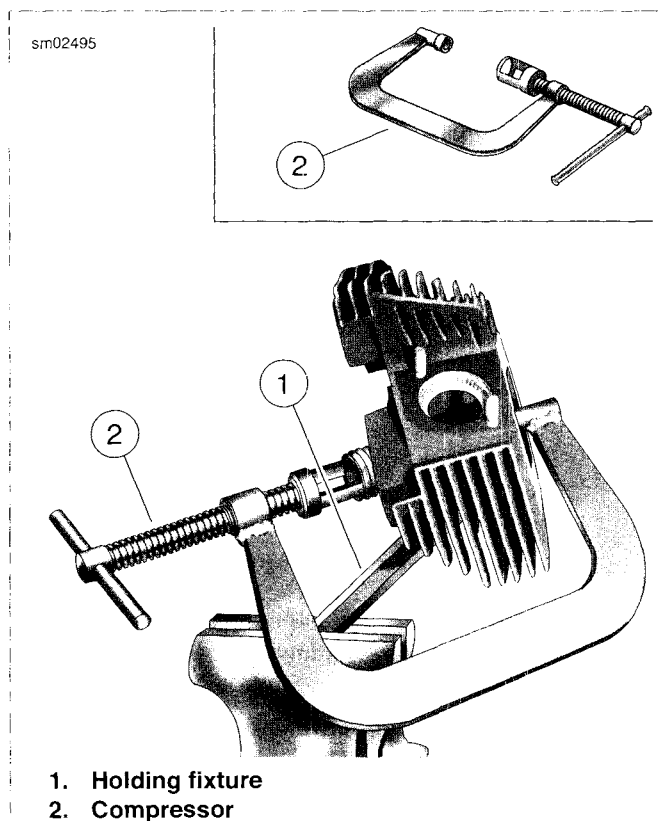
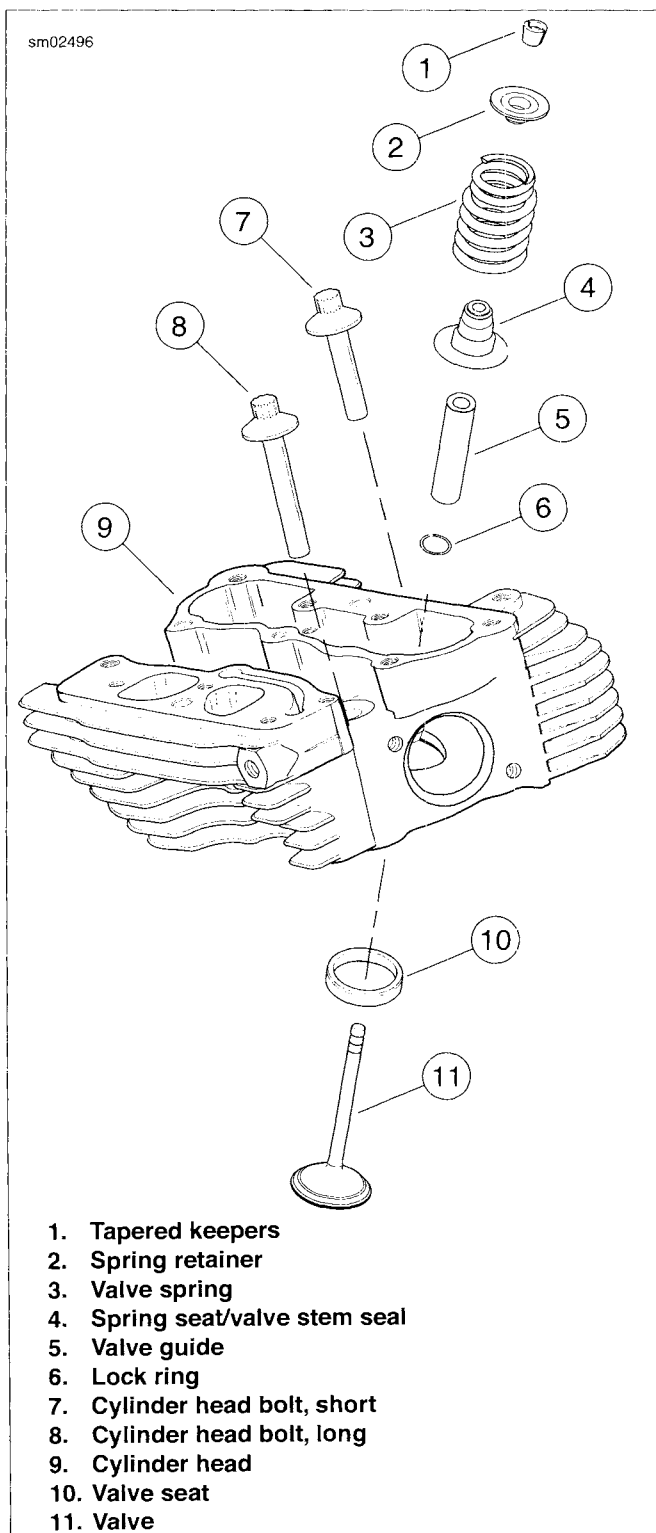

Figure 3-98. Valve Spring Compressor (Part No. HD-34736-B)
Figure 3-99. Cylinder Head Assembly
3. See Figure 3-98. Release valve spring compression.
- a. Place VALVE SPRING COMPRESSOR (Part No. HD-34736-B) (2) over cylinder head. Center blunt end on the valve head. Seat adapter at end of forcing screw on the valve spring retainer.
- c. See Figure 3-99. If spring retainer (2) is not free of tapered keepers (1), give head of tool a sharp tap with a soft mallet. Using magnetic rod or small screwdriver, remove the keepers (1) from the valve stem (11) groove.
4. Remove the spring retainer (2) and valve spring (3).
5. Slide the valve (11) from the valve guide (5).
1. See Figure 3-99. Remove old gasket material from cylinder head (9). Gasket material left on sealing surfaces will cause leaks.